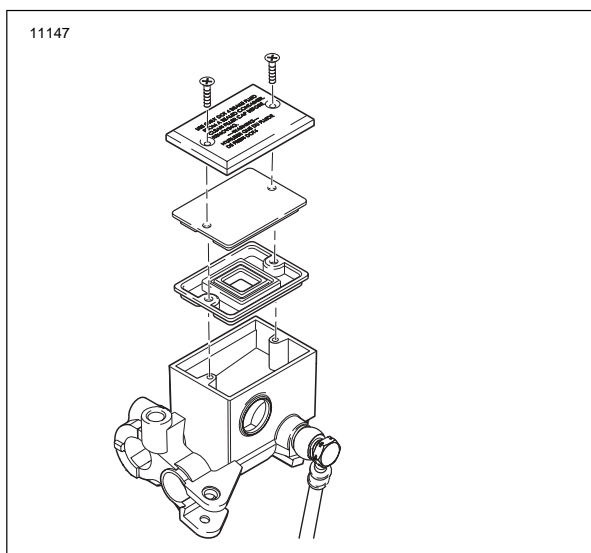

Figure 1-9. Fasteners, Cap, Stiffener and Diaphragm
3. See Figure 1-9. Remove two fasteners and reservoir cap, stiffener and diaphragm.